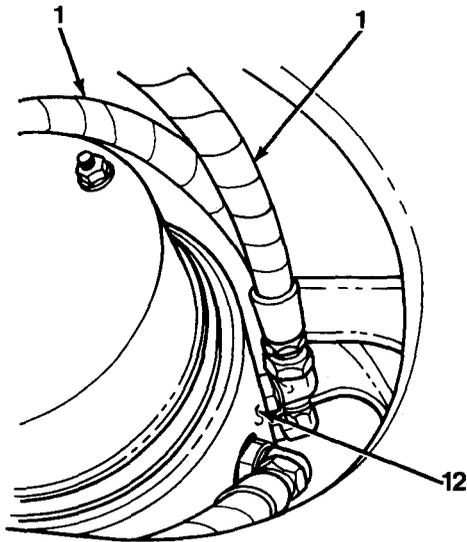

Figure 15-1
8. Connect two boom extend cylinder hoses and boom hoist cylinder hoses (1, Figure 15-1) to rotary manifold (12) elbows.